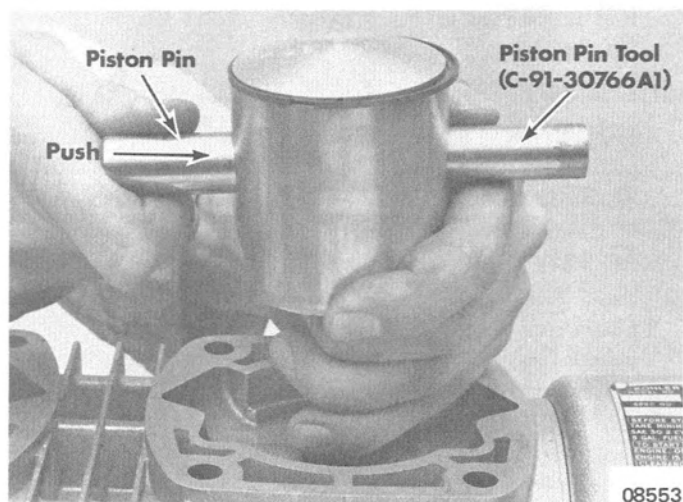

Figure 8. Installing Pistons
3. Install each piston pin, using Piston Pin Tool (C-91-30766A1) as a guide. (Figure 8)